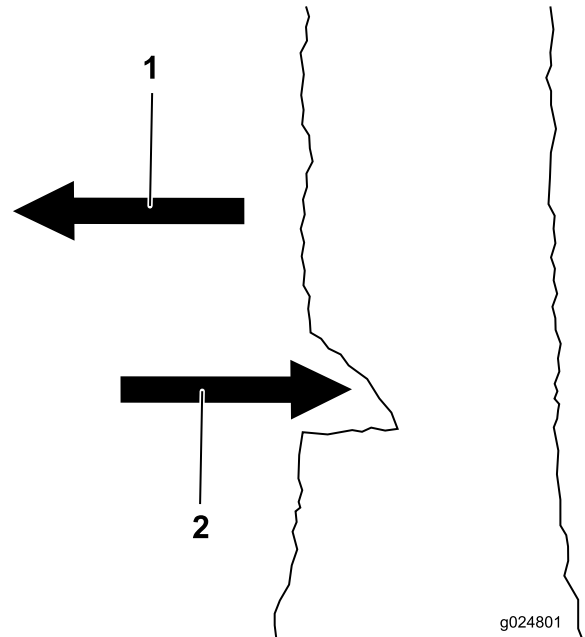

Figure 13
3. Make a notching undercut that goes in one-third the diameter of the tree, perpendicular to the desired direction of fall (Figure 13).